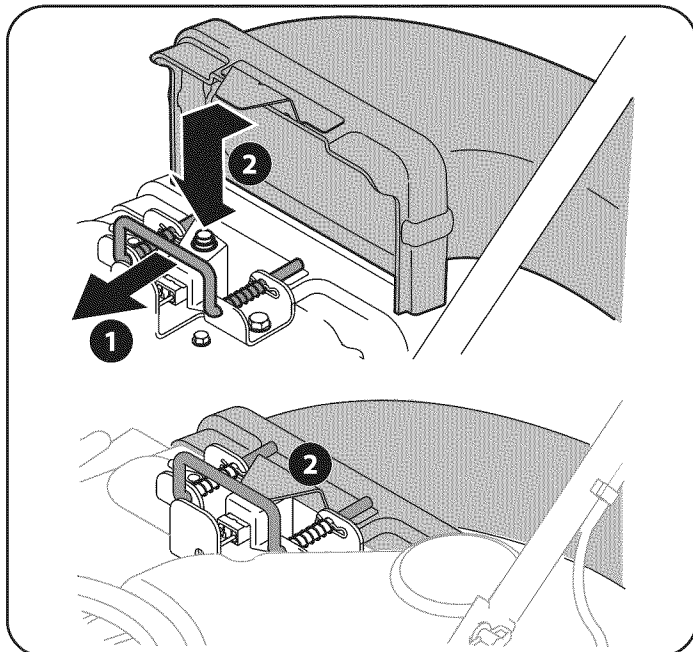

Figure 8
1. Grasp blower chute with one hand and slide locking rod on mounting bracket with other hand toward engine. Use the end of mounting bracket as leverage when sliding the locking rod. See Figure 8.
2. Slip blower chute over rim of discharge opening and release locking rod to secure chute in place, as in Figure 8.